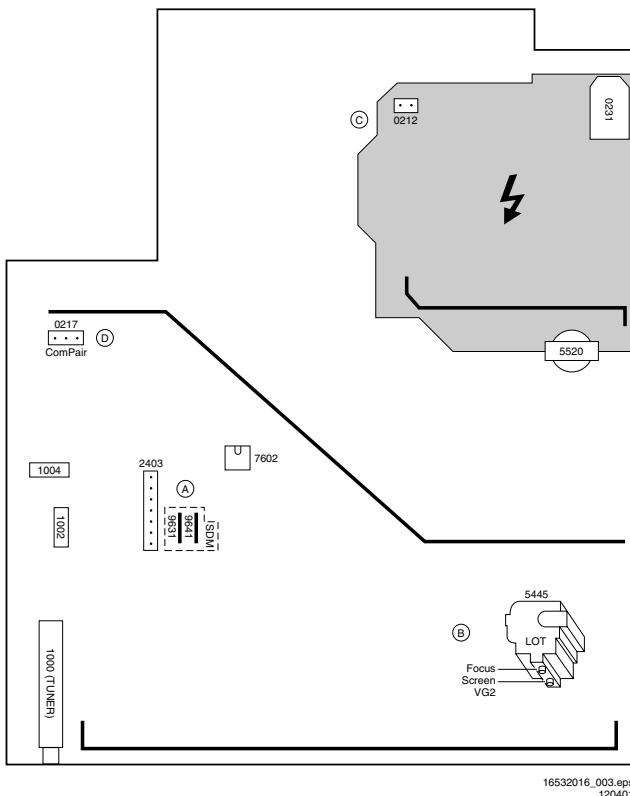

Figure 8-1 Top view LSP
20. Select the cathode with the highest DC voltage for the alignment. Adjust the Vcutoff of this gun with the SCREEN potentiometer (see Fig. 8-1) on the LOT to the correct value (see table below).
4. Adjust the FOCUS potentiometer (see Fig. 8-1) until the vertical lines near the left and right sides of the screen, and near the horizontal center of the screen, are at minimum width without visible haze.